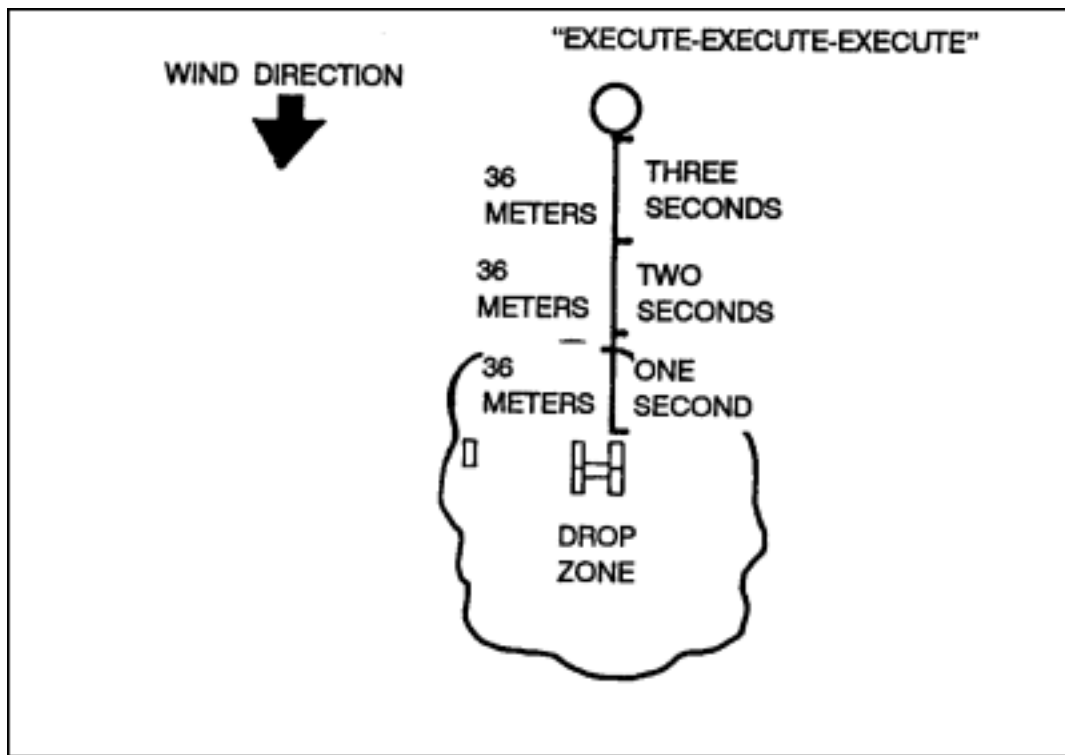

Figure 6-12. Example Army VIRS offset.
f. On an Army VIRS DZ, where trees obscure the RP, you may use an offset (Figure 6-12).